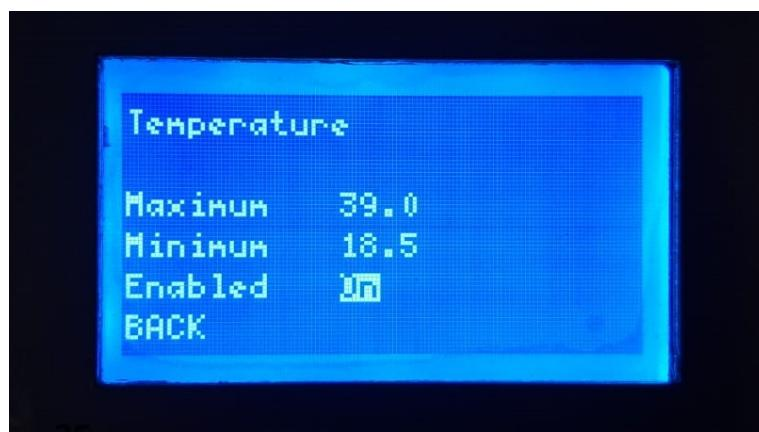

Figure 16: Temperature settings menu when the sensor is enabled
Also the temperature settings menu displays whether the sensor is enabled or disabled. Figure 16 shows an example of the temperature setting menu when the sensor is enabled. If the sensor is disabled the interface shows an OFF after enabled in the menu.
2. Push on the menu scroll wheel to enter the temperature settings menu, the value will be set to OFF in the main menu, this should look like Figure 16